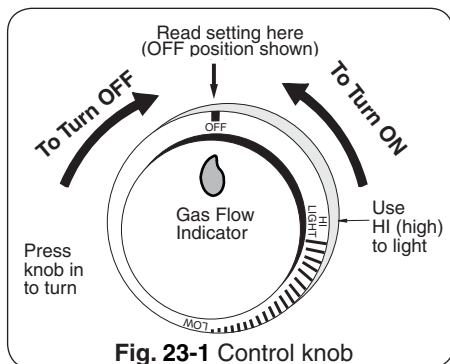

Fig. 23-1 Control knob
**For your convenience and safety; when the control knob is turned to the on position, the gas flow indicator will change from blue to red. (Red indicates gas flow.) See Fig. 23-1.**